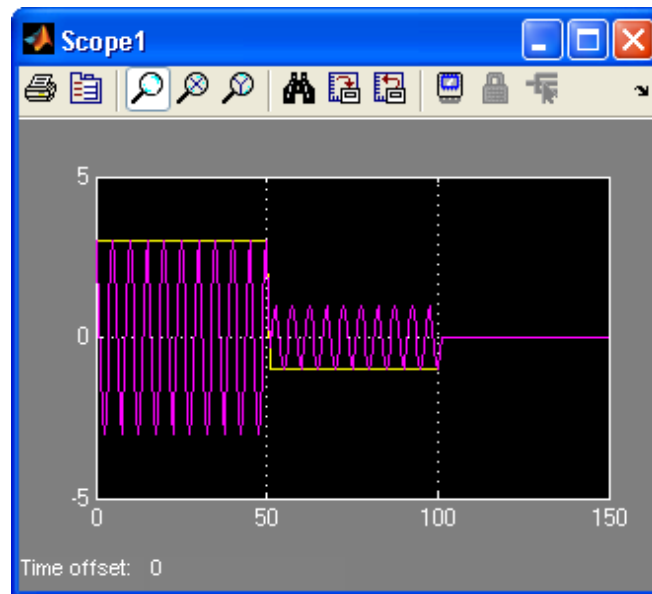
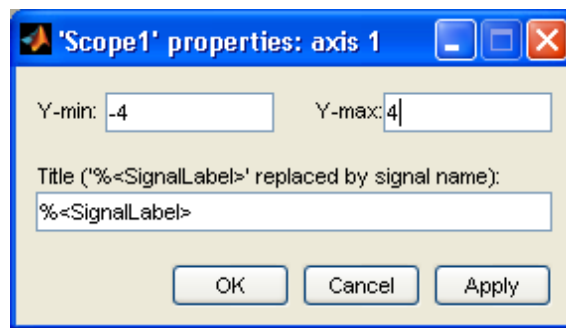
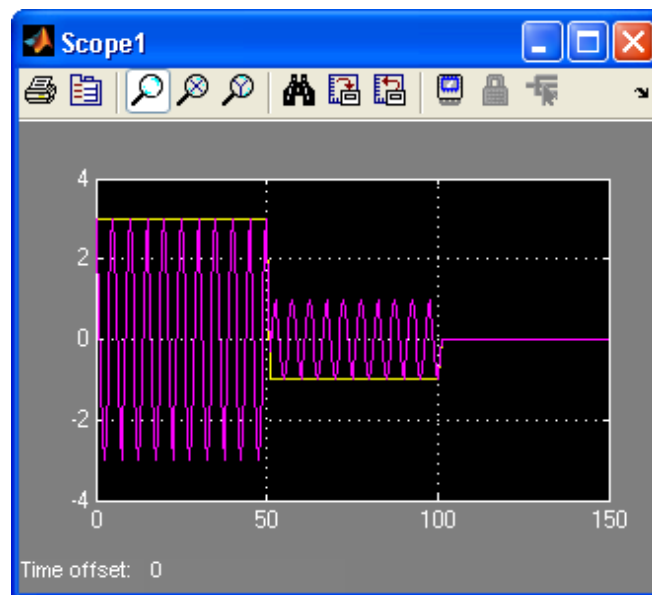

Figure 25: Top Scope
Figure 26: Axis Properties Dialog Box
Figure 27: Scope Window with Modified Y Axes
- m. The top scope produces a display as shown in Figure 25.
- n. The y-axis scales for Figure 25 can be modified to vary the size of the signals. This is done by right-clicking on the graph in the Scope window and selecting Axes properties, which will open another window. In this window change the Y-min field to -4 and the Y-max field to 4, and then select OK. The axis properties dialog box is shown in Figure 26. The resulting Scope window is shown in Figure 27.